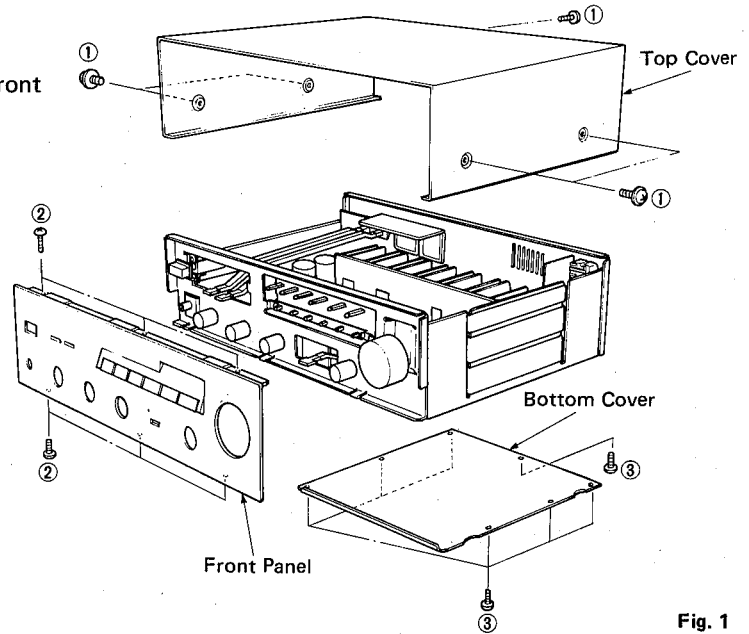

Fig. 1
- a. Remove 5 screws (①) in Fig. 1, and slide the Top Cover back.
- a. Remove 6 screws (②) in Fig. 1, and pull the Front Panel forward.
- a. Remove 7 screws (③) in Fig. 1.